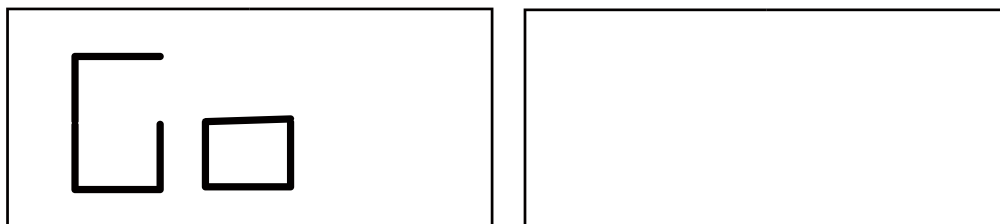

Fig. F5.5 “Run the launch” message
4. Press [P4]  . The message seen in figure F5.5 will be displayed;